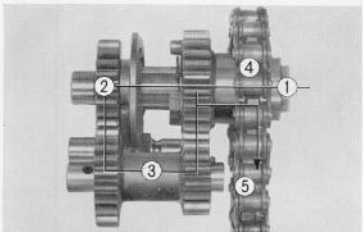

Fig. 3.113 Low speed range
• Low speed range. (Fig. 3.113)